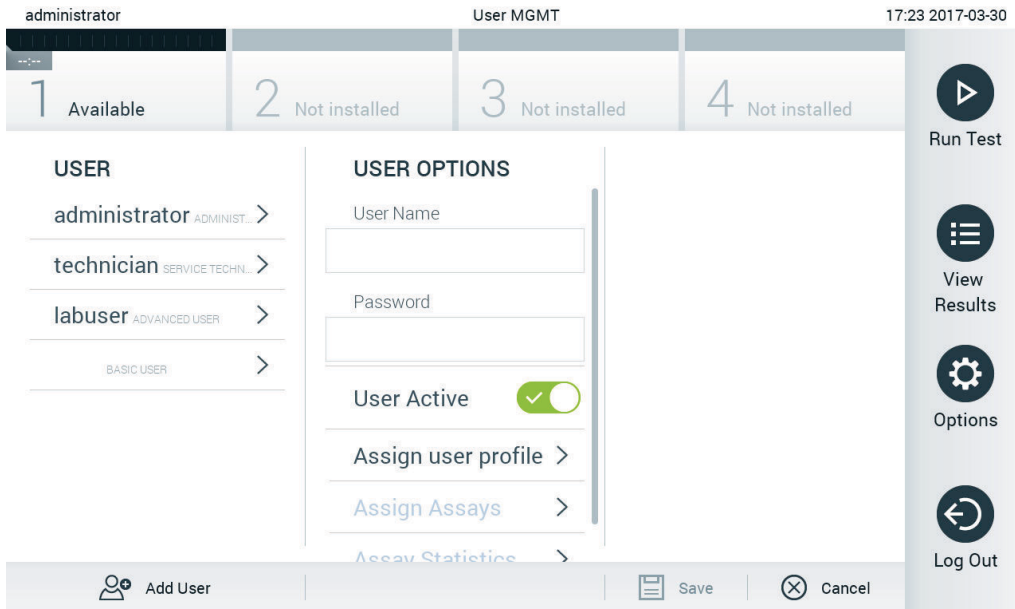

Figure 57. Adding a new user.
1. Press the **Options** button and then the **User Management** button to configure users. The **User Management** screen appears in the content area of the display (Figure 57, next page).